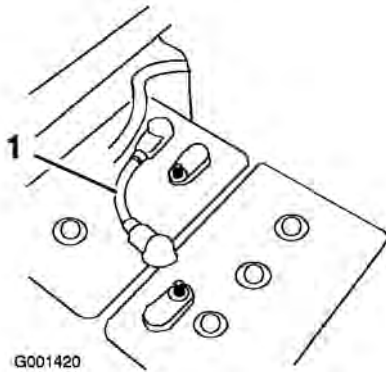

Figure 1
2. Raise the bed to access the vehicle batteries. Remove a short battery cable linking any two batteries in the battery bank to remove power from the system (Figure 1).